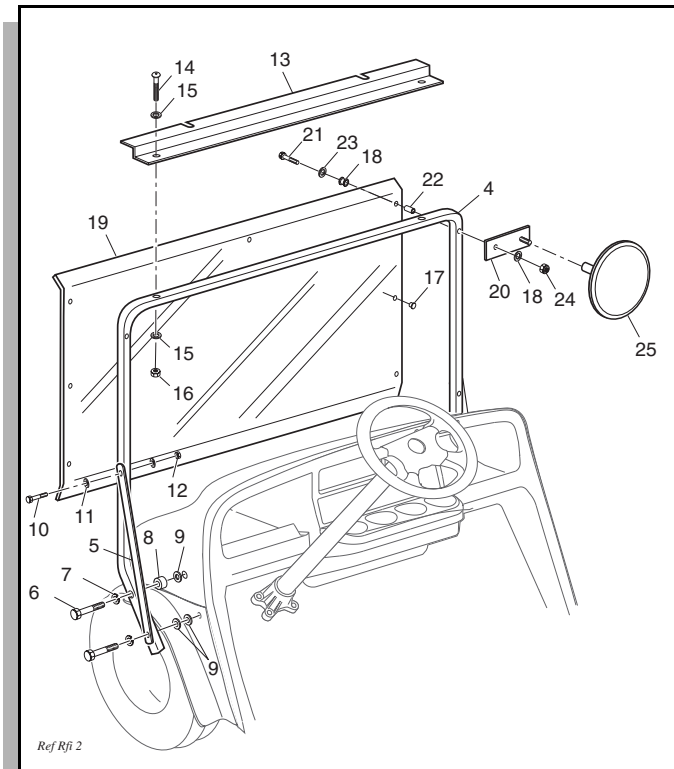

Fig. 2 Front Strut, Windshield and Mirror Installation
Position front strut (item 4) and braces (item 5) as shown (Ref Fig. 2 on page 3) and secure to vehicle at each side of the cowl with four 5/16 - 18 X 2 1/2" bolts (item 6), four 5/16" lock washers (item 7), two spacers (item 8) and six 3/8" flat washers (item 9). Secure top of braces with two 5/16 - 18 X 2 1/4" bolts (item 10), four 5/16" lock washers (item 11) and two 5/16 - 18 lock nuts (item 12). Attach canopy frame mounting plate (item 13) to front strut using two 1/4 - 20 X 1 1/2" bolts (item 14), four 1/4" flat washers (item 15) and two 1/4 - 20 lock nuts (item 16) as shown. Tighten hardware firmly.
Insert two bumpers (item 17) and four grommets (item 18) into holes in windshield (item 19) as shown (Ref Fig. 2 on page 3). Position windshield and mirror brackets (item 20) as shown. Secure windshield and mirror brackets to front strut with four 1/4 - 20 X 1 3/4" bolts (item 21), four spacers (item 22), four 1/4" washers (item 23) and four 1/4 - 20 lock nuts (item 24). Tighten hardware firmly. Thread mirrors (item 25) onto mirror brackets and tighten securely.